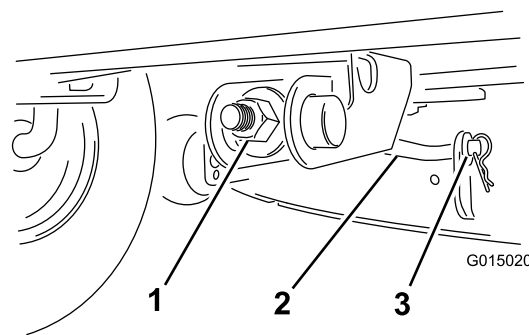

Figure 40
8. Adjust the front-to-rear blade slope by rotating the adjustment nut in the front of the mower (Figure 40).